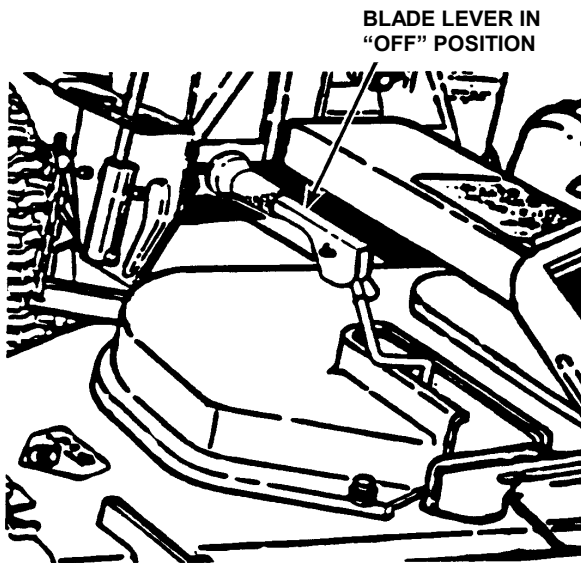
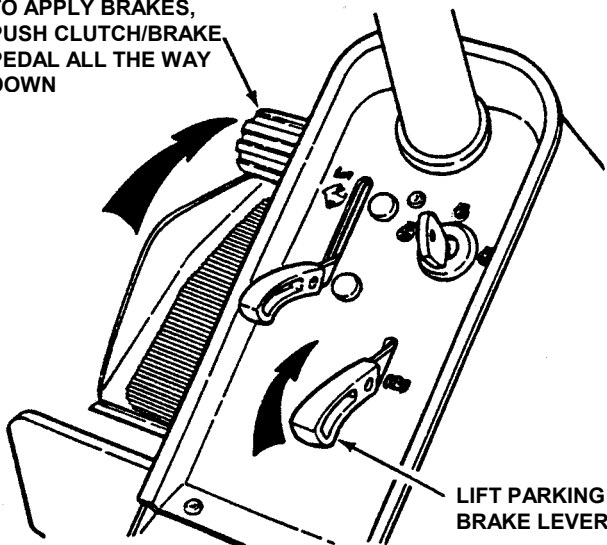

FIGURE 2.4
FIGURE 2.8
2. Make certain the Blade Lever is in the "Off" position. See Figure 2.4.
**IMPORTANT:** When the ignition key is turned to "RUN", and the recoil handle is pulled, the engine will turn over, but will not start unless the Clutch/Brake Pedal is pressed all the way down with Parking Brake engaged (See Figure 2.8) and the Blade Lever is in the "Off" position (See Figure 2.4). Start engine as follows:
1. Move transmission shift lever to (N) Neutral position. DO NOT start engine with transmission shift lever in a drive position.
3. Press Clutch/Brake Pedal all the way down, lift Parking Brake Lever and release the Clutch/Brake Pedal to set Parking Brake. See Figure 2.8.